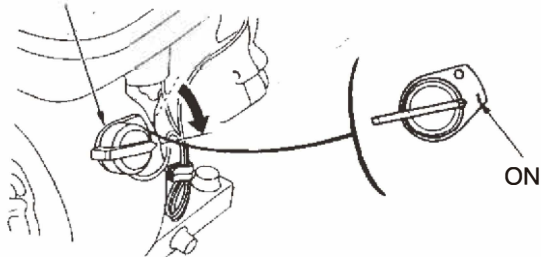

Fig.8
- (3) Set engine switch to "ON". See figure 8.